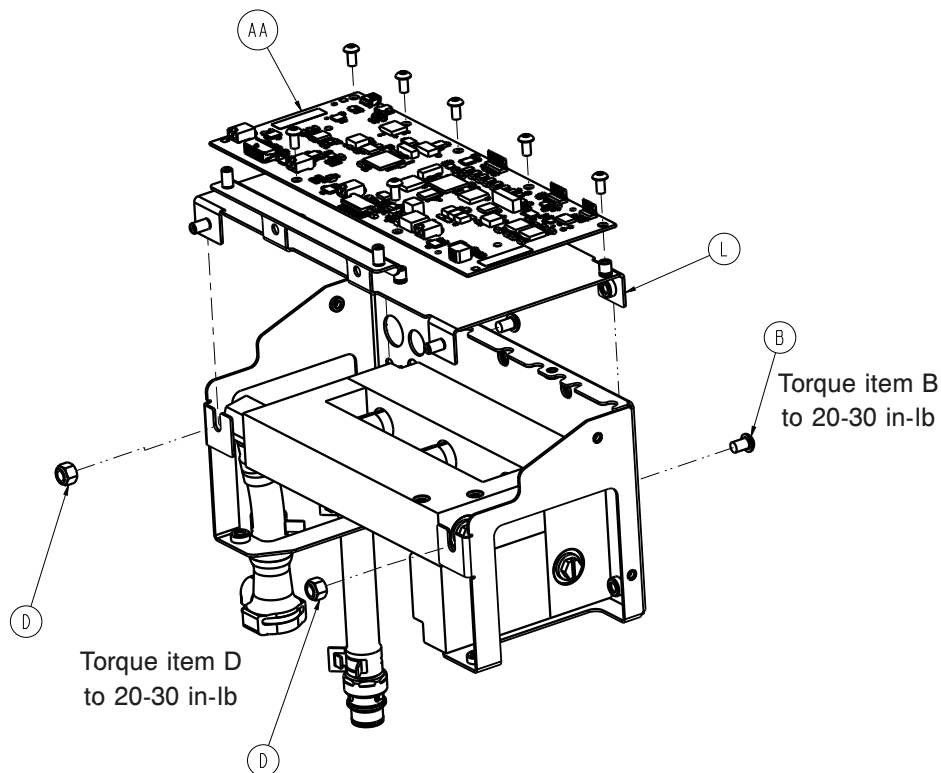

Figure 34: Main control board
7. Disconnect the 10 cable connections to the MCB (AA). Labeled E, F, G, H, J, M, N, L, AG, and AH (Figure 34 on page 48).